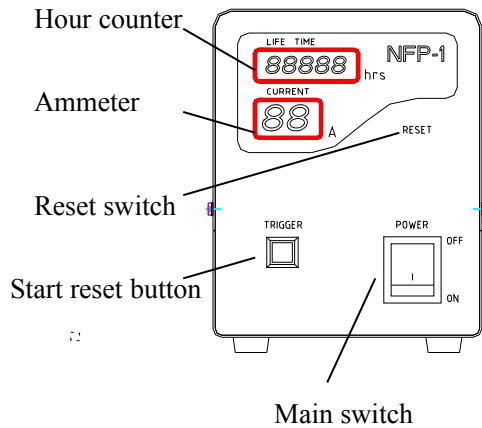

Fig.8
- After replacing with a new burner, reset the hour counter, be sure to press the reset switch until "000.00" is displayed. (Fig.8) Some problems will happen in the using of the attachment, you could solve them according to the following list.